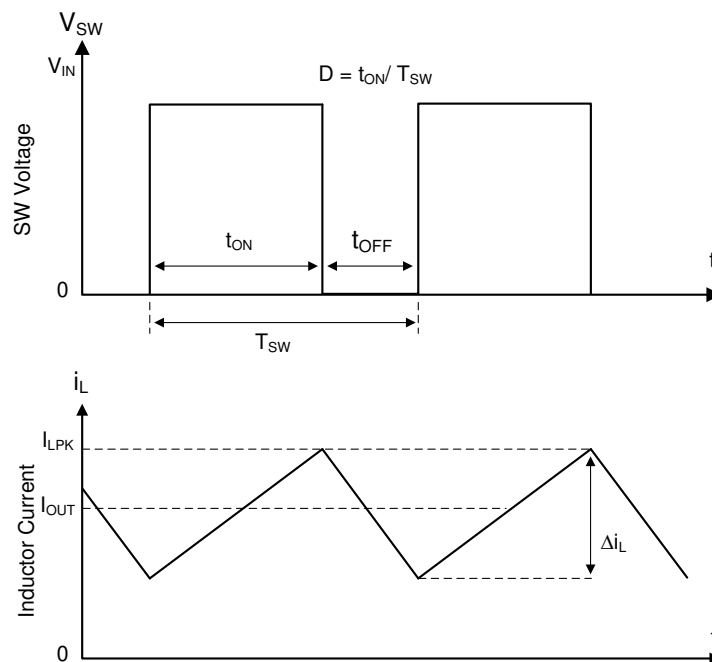

图 7-1. SW Node and Inductor Current Waveforms in Continuous Conduction Mode (CCM)
The following operating description of the LMR516xx-Q1 refers to the Functional Block Diagram and to the waveforms in 图 7-1. The LMR516xx-Q1 is a step-down synchronous buck converter with integrated high-side (HS) and low-side (LS) switches (synchronous rectifier). The LMR516xx-Q1 supplies a regulated output voltage by turning on the high-side and low-side NMOS switches with controlled duty cycle. During high-side switch ON time, the SW pin voltage swings up to approximately V_{IN} , and the inductor current, i_L , increases with a linear slope of $(V_{IN} - V_{OUT}) / L$. When the high-side switch is turned off by the control logic, the low-side switch is turned on after an anti-shoot-through dead time. Inductor current discharges through the low-side switch with a slope of $-V_{OUT} / L$. The control parameter of a buck converter is defined as Duty Cycle $D = t_{ON} / T_{SW}$, where t_{ON} is the high-side switch ON time and T_{SW} is the switching period. The converter control loop maintains a constant output voltage by adjusting the duty cycle D . In an ideal buck converter, where losses are ignored, D is proportional to the output voltage and inversely proportional to the input voltage: $D = V_{OUT} / V_{IN}$.